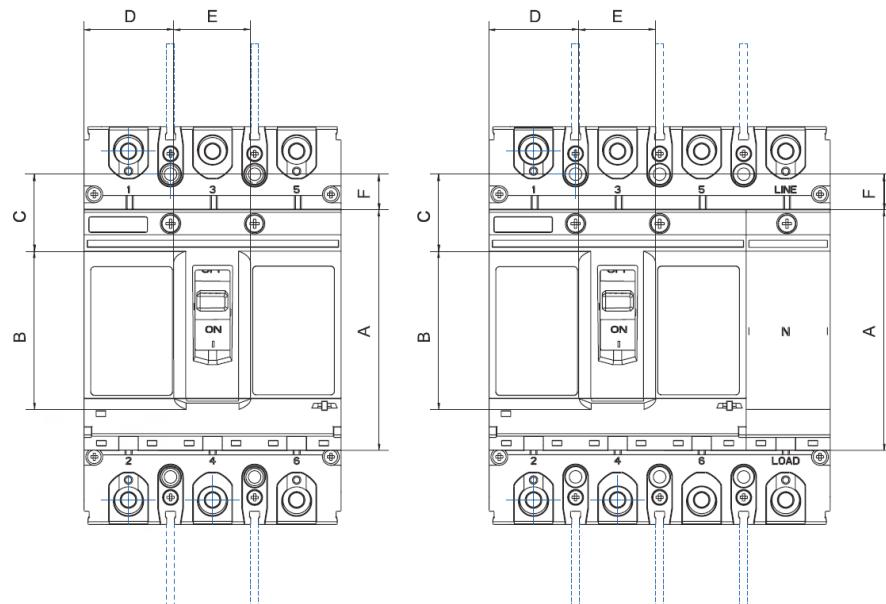

Figure 3 Hole sizes of the handle and panel
9.2 The hole sizes of the handle and panel of the product (Table 33 and Figure 3)